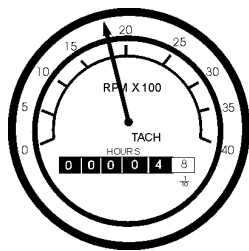

Figure 51. Engine Tachometer Gauge
14. The **tachometer gauge** (Figure 51) will indicate the speed of the engine when the generator is operating. Under normal operating conditions this speed is approximately 1500 RPM's.